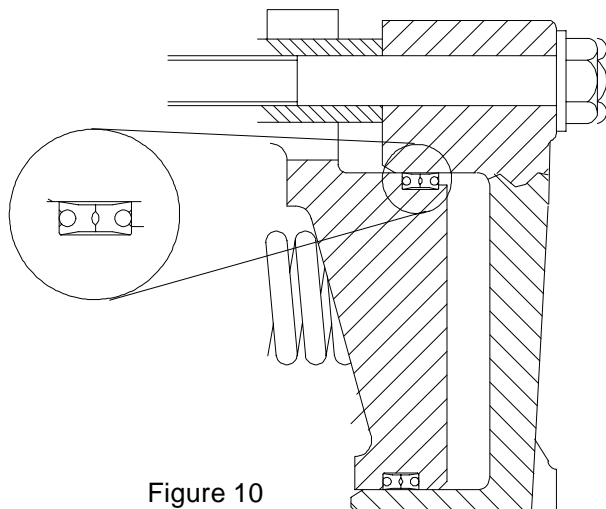

Figure 10
- 4.4.4 Insert new seals into the grooves, noting the orientation of the seals per Figure 10.